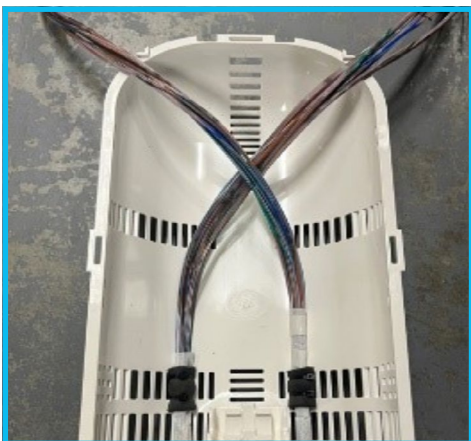

Figure 11.3
3. Twist the fibres at the top of the basket to reverse the direction [figure 11.3].